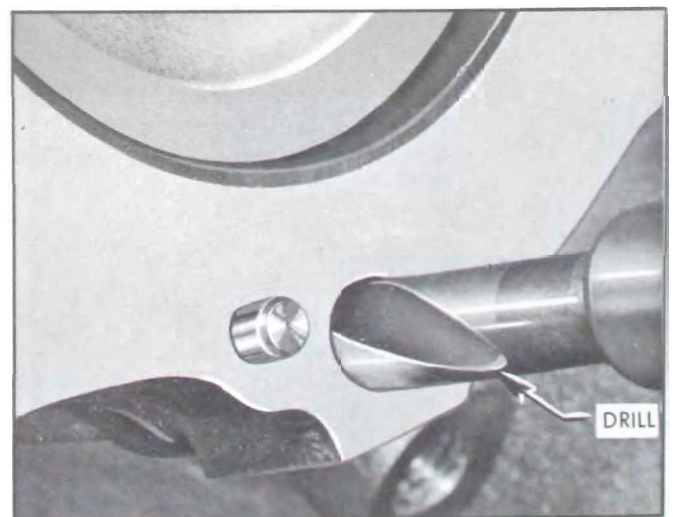

Figure 2-71—Drilling Out Damaged Threads
1. Prepare the hole. See Figure 2-71.